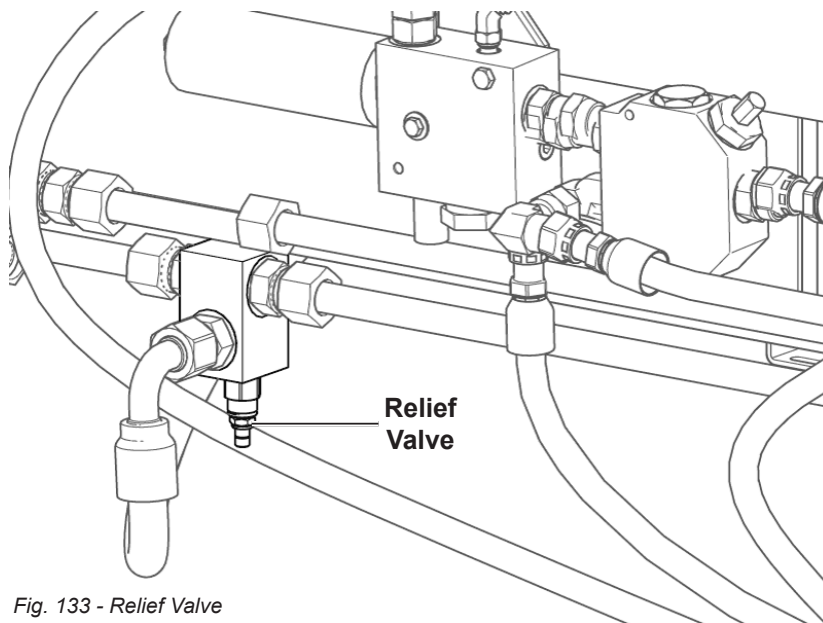

Fig. 133 - Relief Valve
4. Locate the relief valve on the left side of the header (**see Fig. 133**). Adjust the relief screw; turning clockwise increases pressure, and counter-clockwise decreases pressure setting.